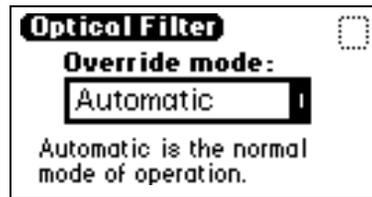

Figure 5-14 Optical Filter Override Diagnostic
1. From the Other diagnostics choice list, press **2, Optical filter override**, to manually override the detector’s automatic filter choice. The Optical Filter Override diagnostic is displayed (Figure 5-14).